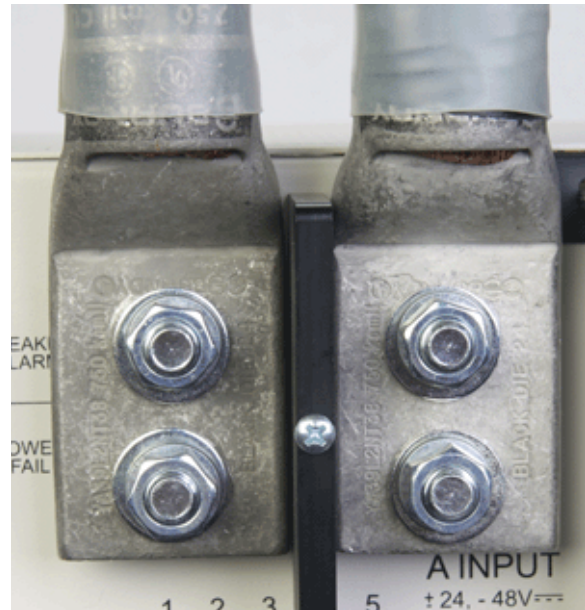

Figure 5 - Input Lug Connections
15. Connect the lugs to input terminals on the back of the panel, as shown in Figure 5.